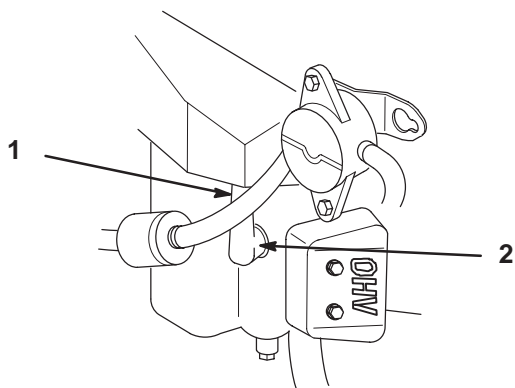

Figure 23
3. Pull the wire(s) off of the spark plug(s) (Fig. 23). Clean around the spark plug(s) to prevent dirt from falling into the engine and potentially causing damage.
3. Push the wire(s) onto the spark plug(s) (Fig. 23).